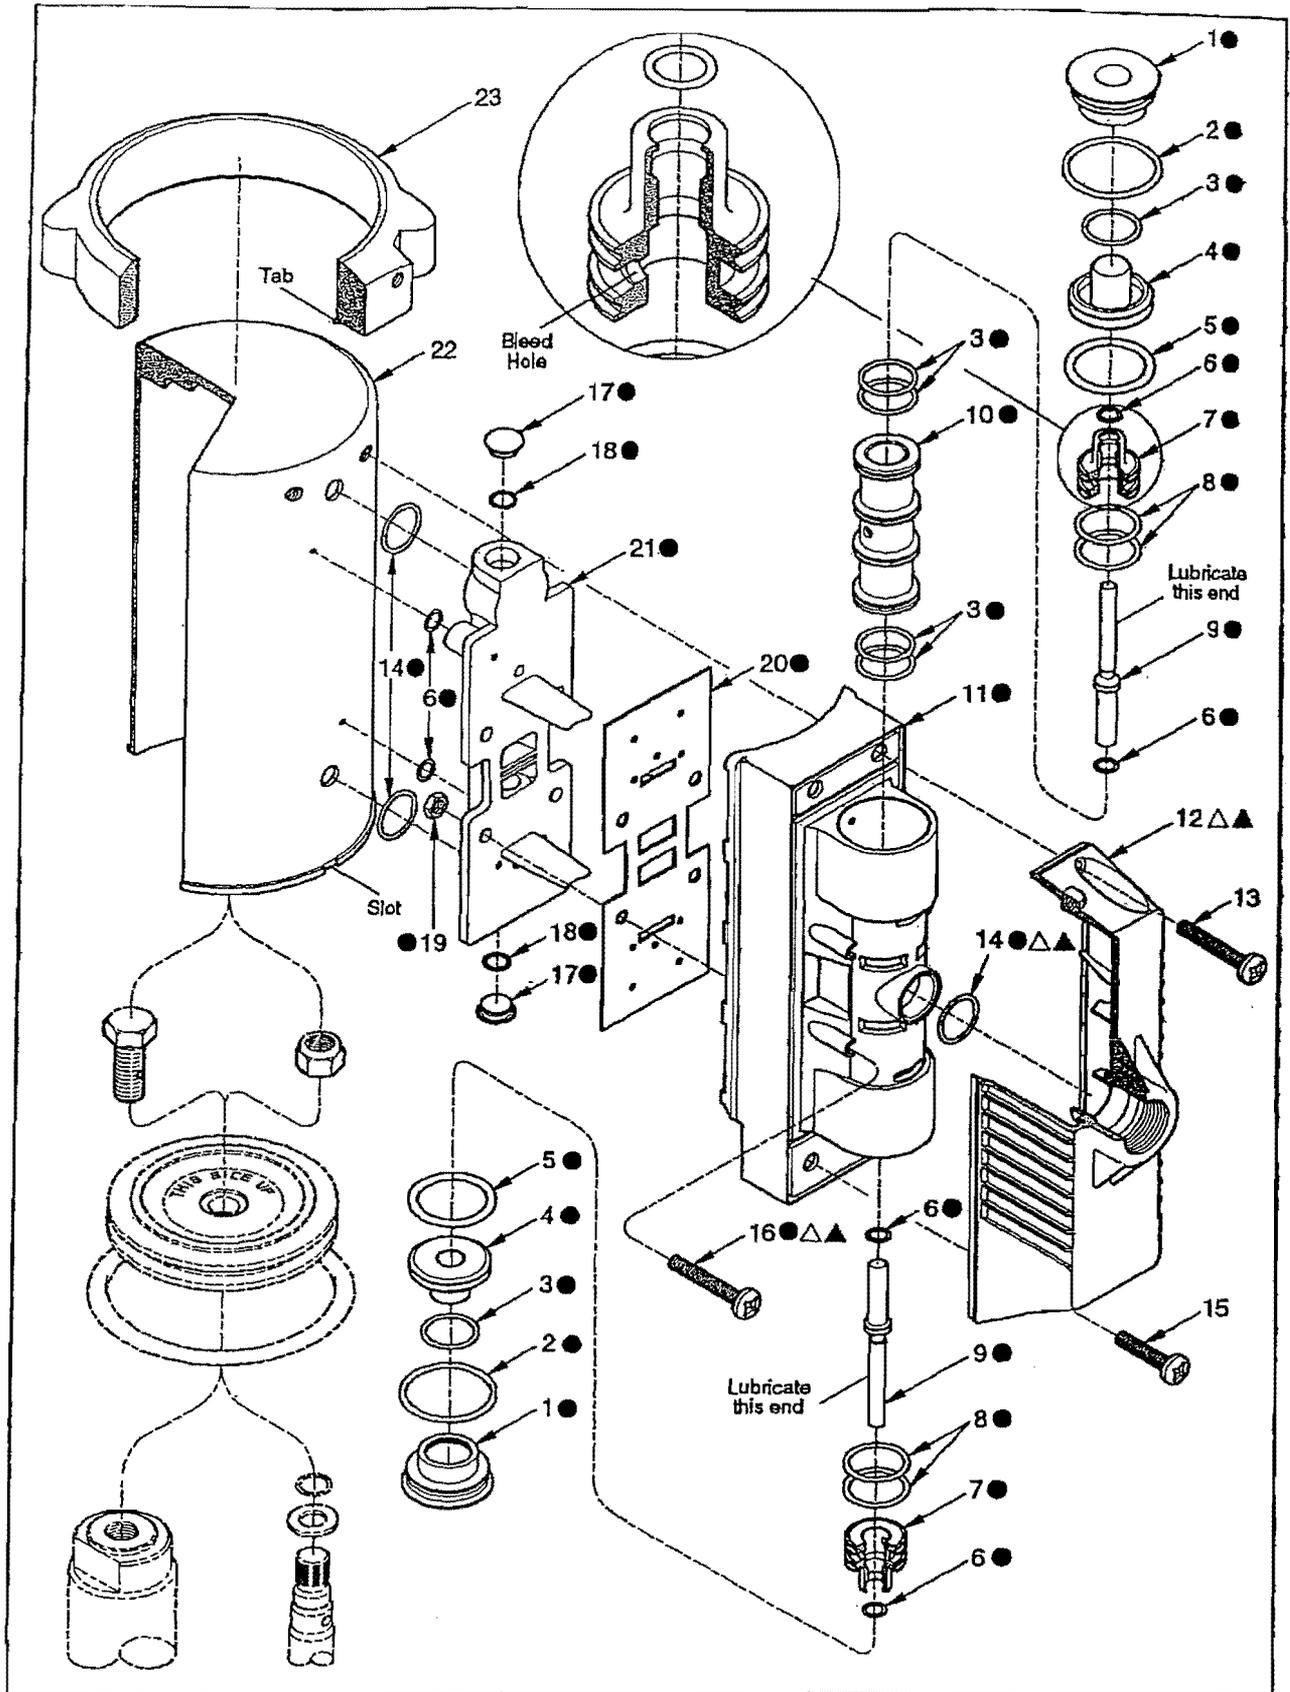

Figure 2 Air Motor Model 338066 Series - Exploded View
**NOTE:** Refer to Figure 2 for component identification on all overhaul procedures.